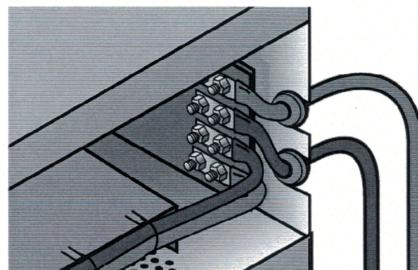

Figure 32 X3 Fabric Shelf Power and Return Connections and Cable Routing
2. There are four horizontal terminal strips on the power distribution board. The terminal strips are labeled, from top to bottom, N48V A, RTN A, RTN B, and N48V B. Using a $3/8$ -inch nut driver, remove all the No. 10 nuts on the four terminal strips and retain them. See Figure 32.
3. Making sure to use the end with the narrower lug, connect the shorter of the two red cables to the terminal strip labeled N48V A, secure with the No. 10 nut and tighten with a $3/8$ -inch nut driver. Connect the longer of the two red cables to N48VB, and secure with the No. 10 nut. See Figure 32.
4. Making sure to use the ends with the narrower lugs, connect the two black cables to the terminal strips labeled RTN A and RTN B, (connecting the longer of the two to RTN B), secure them with the No. 10 nuts and tighten with a $3/8$ -inch nut driver. See Figure 32.